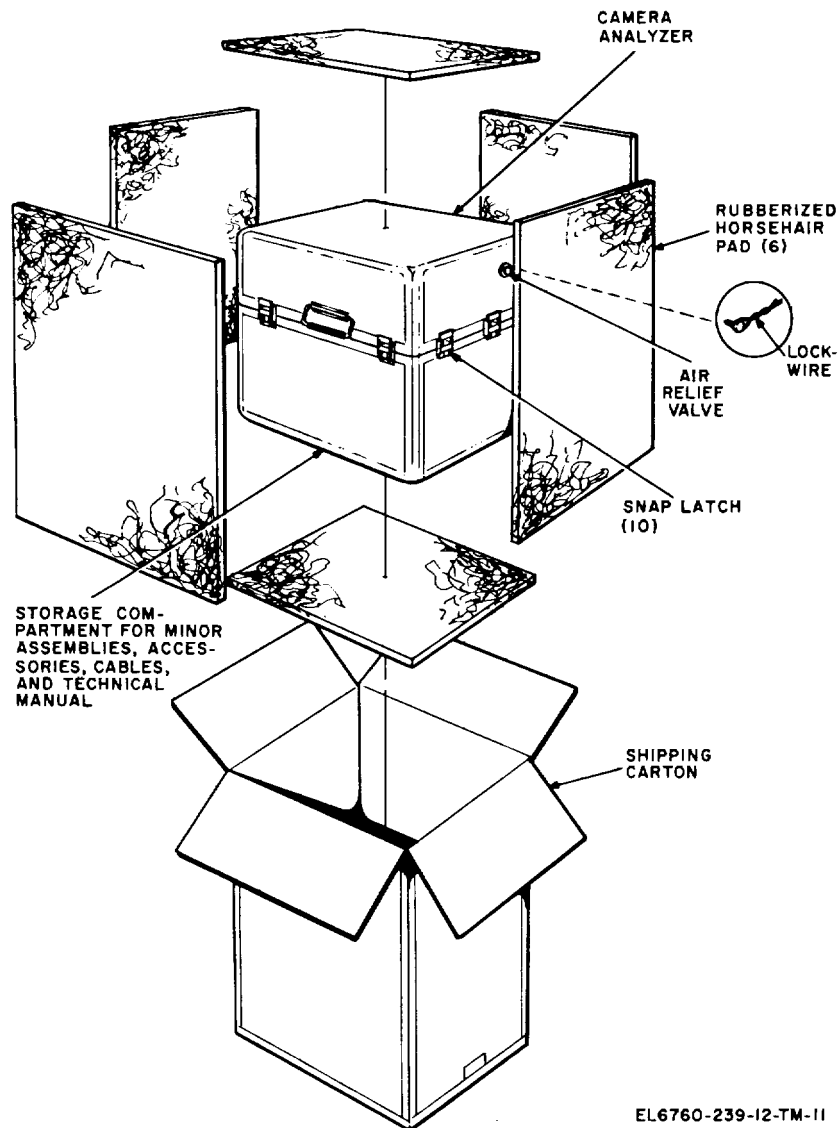

Figure 2-1. Camera analyzer, typical packaging diagram.
(fig. 2-1)
a. Packing and Packing Data. When packed for shipment, the components of the camera analyzer are secured in the combination case and packed in corrugated carton. A typical corrugated carton and its contents are shown in figure 2-1. The corrugated carton is 24 inches high by 23 inches wide by 24 inches deep. The total weight is 94 pounds and the volume is 7.5 cubic feet.
(1) Carefully cut the gummed tape at the top of the corrugated carton and fold back the flaps.
(2) Open the wrap of filler material and remove the waterproof package containing the technical manual. Cut the tape securing one side of the waterproof package and remove the technical manual.
(3) Remove the camera analyzer from the corrugated carton.
(4) Cut and remove the lock wire from the air relief valve (fig. 2-1). Turn the air relief valve to OPEN.
(5) Unfasten the 10 snap latches. Lift the combination case top and slide it to the right to disengage the separable hinges.
(6) Open the hinged door by releasing the two twistlock fasteners.
(7) Remove the retaining cushion.
(8) Remove the components from their cut-outs in the compartment cushion.
(9) Remove the special tools from the tool storage case.